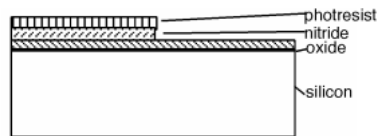

Figure 4.17
The pattern that was used in the photolithographic (PL) step exposed half of our area to light, and so the photoresist (PR) in that region was removed upon development. The wafer is now immersed in a hydrofluoric acid (HF) solution. HF acid etches silicon nitride quite rapidly, but does not etch silicon dioxide nearly as fast, so after the etch we have what we see in Figure 4.17 (After Nitride Etch).